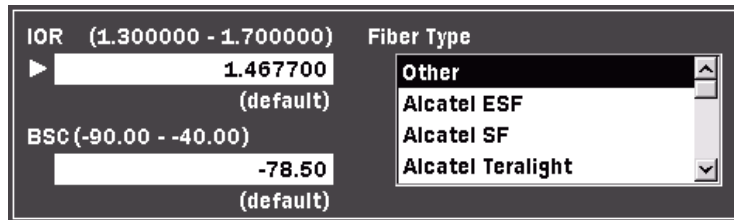

Figure 4-25: IOR/BSC Dialog
1. Press **IOR/BSC (f2)**. The IOR/BSC dialog appears (see Figure 4-25).
1. Press **IOR / BSC (f2)**. The IOR/BSC dialog appears (see Figure 4-25).